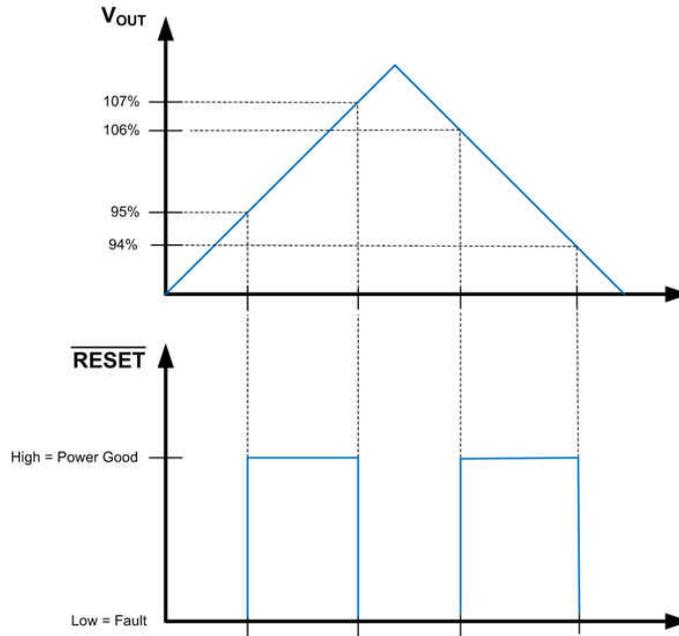
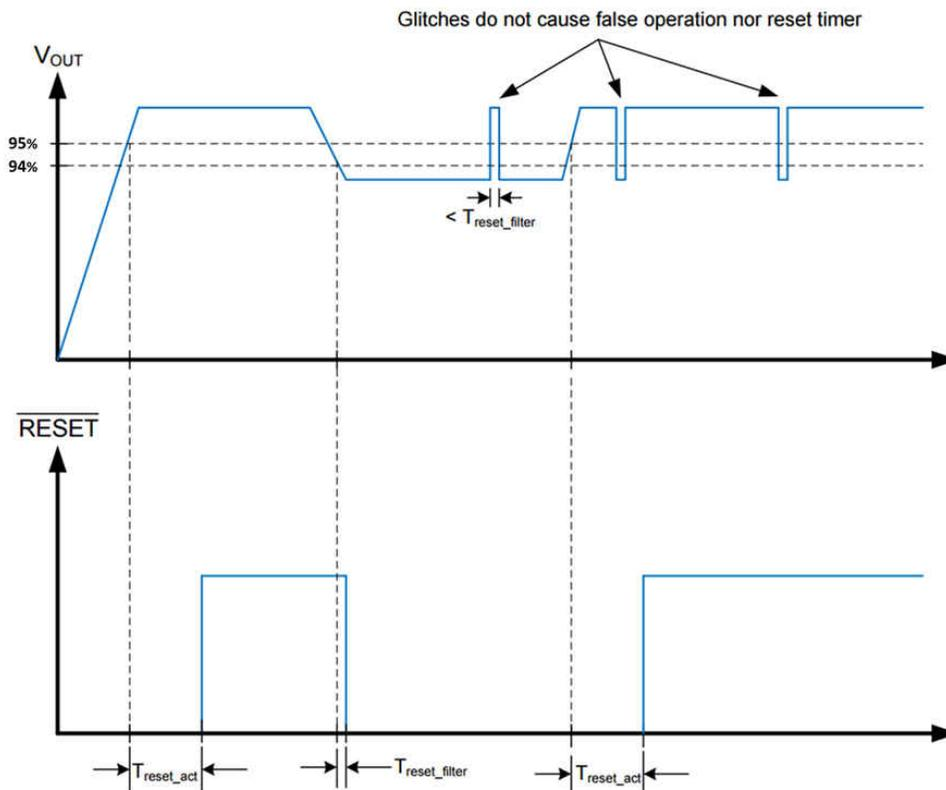

Figure 8-2. Static $\overline{\text{RESET}}$ Operation
Figure 8-3. RESET Timing Behavior
The $\overline{\text{RESET}}$ function, built into the LM53625/35-Q1, has special features not found in the ordinary Power-Good function. A glitch filter prevents false flag operation for short excursions in the output voltage, such as during line and load transients. Furthermore, there is a delay between the point at which the output voltage is within specified limits and the flag asserts Power Good. Because the $\overline{\text{RESET}}$ comparator and the regulation loop share the same reference, the thresholds track with the output voltage. This allows the LM53625/35-Q1 to be specified with a 96.5% maximum threshold, while at the same time specifying a 94 % worst case threshold with respect to the actual output voltage for that device. This allows tighter tolerance than is possible with an external supervisor device. The net result is a more accurate Power-Good function while expanding the system allowance for transients, and so forth. $\overline{\text{RESET}}$ operation can best be understood by reference to Figure 8-2 and Figure 8-3. The values for the various filter and delay times can be found in Section 7.7. Output voltage excursions lasting less than $T_{\text{RESET-filter}}$ do not trip $\overline{\text{RESET}}$. Once the output voltage is within the prescribed limits, a delay of $T_{\text{RESET-act}}$ is imposed before $\overline{\text{RESET}}$ goes high.
- A delay has been added for release of reset. See Figure 8-2 and Figure 8-3 for more detail.